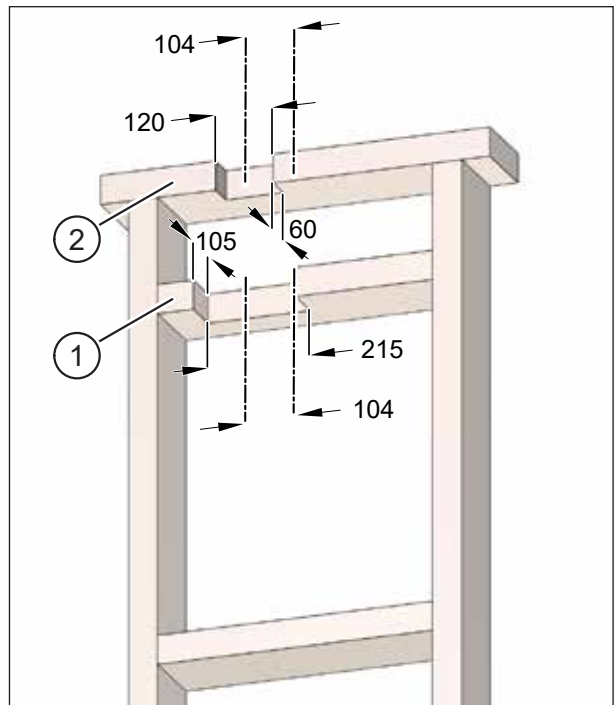

Fig. 12: Sawing channels for flat ductwork or flexible pipes, dimensions in millimetres
- ▶ Saw a channel 215 mm wide and 105 mm deep in the upper batten (item 1 in Fig. 12) for the ductwork connection adapter on the extract air side.
- ▶ Saw a channel 120 mm wide and 60 mm deep in the ceiling joist (item 2 in Fig. 12) for the extract air duct.